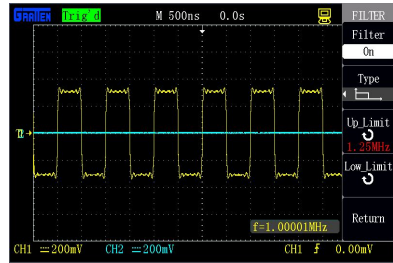

Figure 2-17 Digital filter ON
- Press [CH1]→“Next”→“Digital filter”→“ON”, and open digital filter function, as shown in figure 2-17.